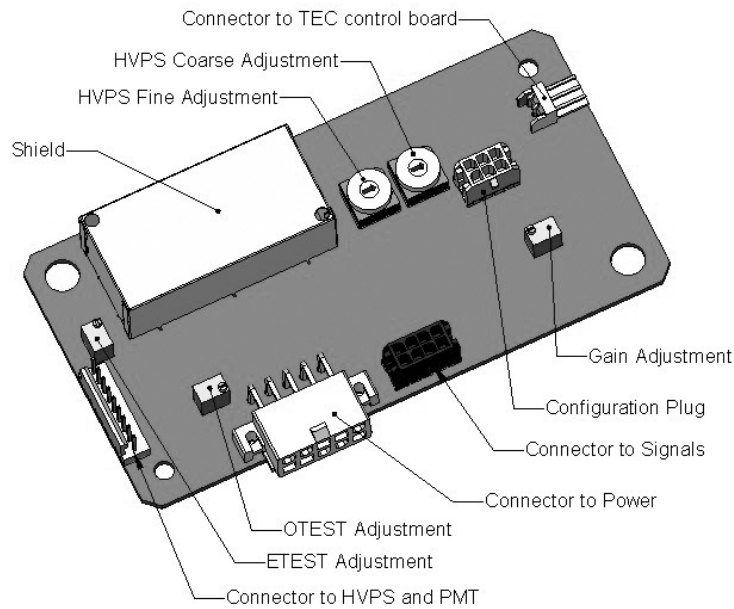

Figure 11-17: Pre-Amplifier Board (Preamp PCA) Layout
7. Locate the Following Components On the Preamp PCA (Figure 11-17):
11. Set the HVPS coarse adjustment to its minimum setting (0).
12. Set the HVPS fine adjustment switch to its maximum setting (F).